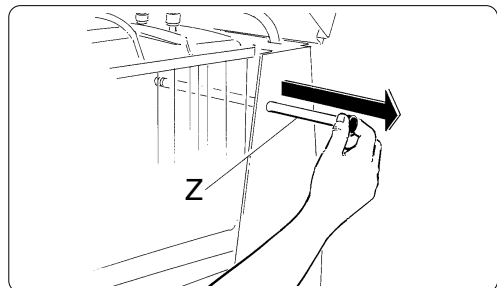

Fig. 29
- d) Slide the locking bar (Z) out to release the tanks fully in order to facilitate their disassembly (fig. 29).